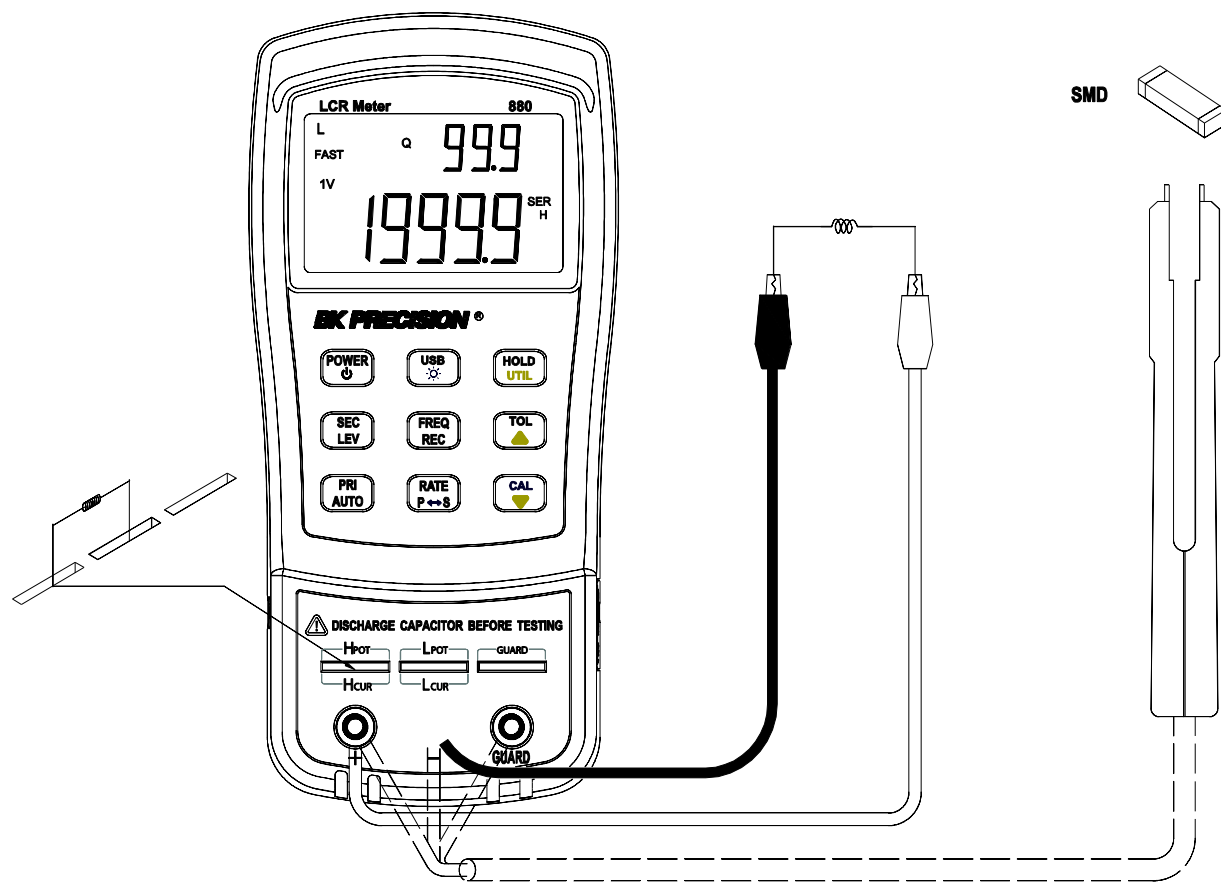

Figure 11 - Inductance Measurement Setup
3. Insert an inductor into either the input sockets or connect alligator leads into the banana jack input terminals and connect the clips to the component leads as illustrated in Figure 11.